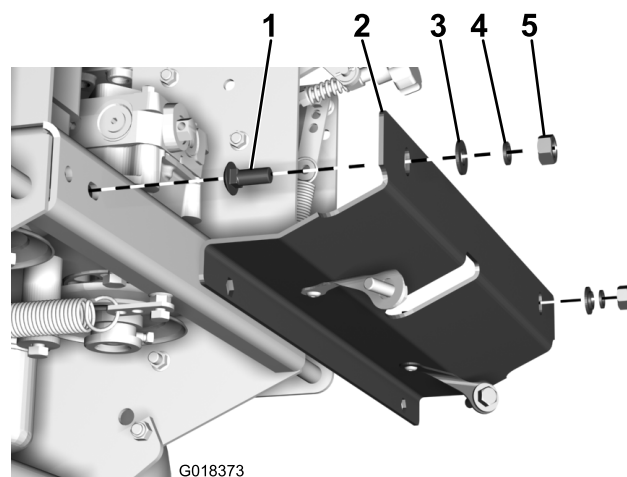

Figure 7
15. Install the drive pulley guard to the rear of the engine frame with 2 carriage bolts (M10 x 25 mm), heavy washers (M10), spring washers, and nuts (M10)(Figure 7). Ensure that you center the guard on the engine frame.